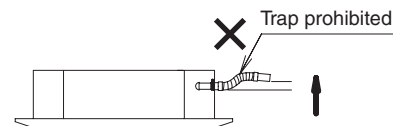

Fig. 1-128
- Do not make a trap in the middle of the supplied drain hose. Doing so will cause abnormal sound. (Fig. 1-128)